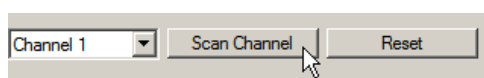

Figure 18: LINX Configurator software, scan DALI Channel.
2. Select the DALI channel and click on the **Scan Channel** button shown in Figure 18.